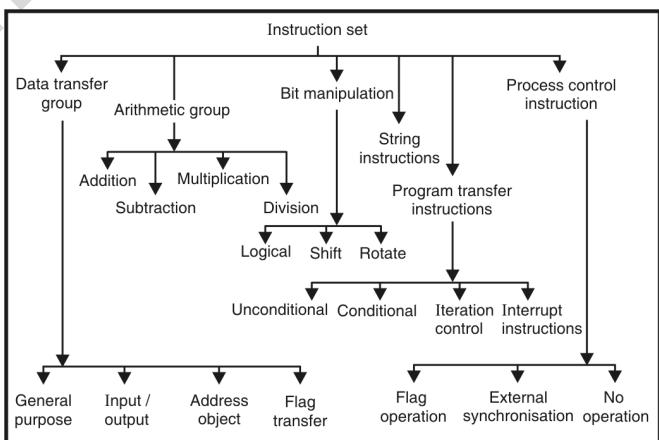

Fig. 10.4.1
- Graphical presentation of different groups is as shown in Fig. 10.4.1.